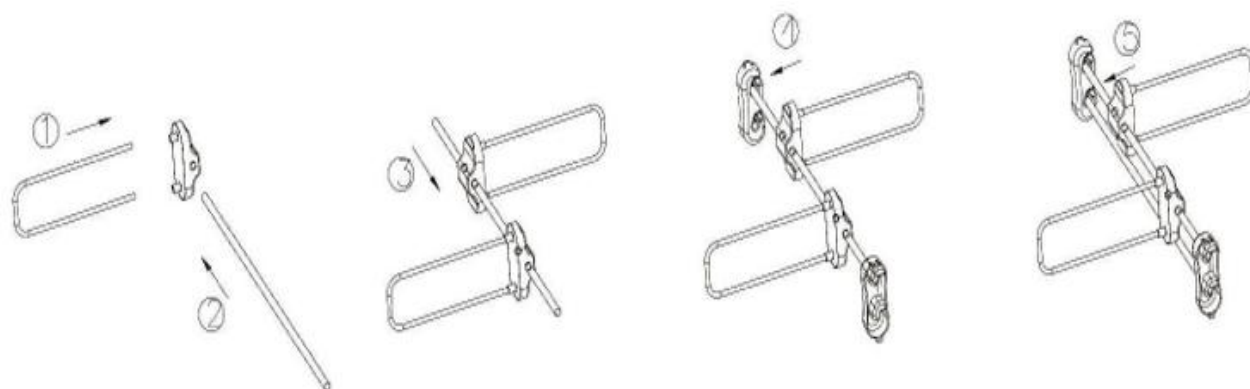

Figure 3
Étape 2: To assemble the movable divider, the parts that need to be prepared are 2pcs upper drawer pipe, 2 U-shaped tubes and 2 rotators, please following below figure 3.